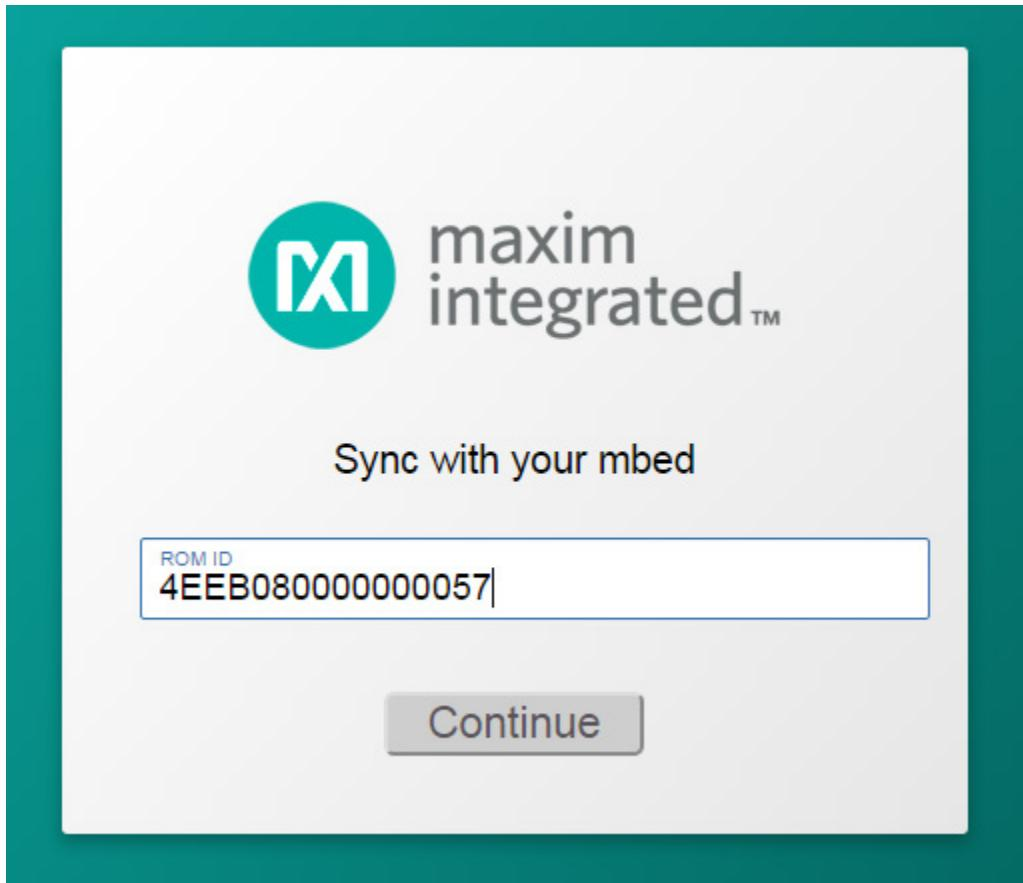

Figure 8. Sync with your mbed.
| Figure 8. Sync with your mbed..... | 8 |
5. Type in the 64-bit ROM ID that you wrote down from **Demo Setup**, step 3 as per the example in **Figure 8** and click on **Continue** to "Sync with your mbed."